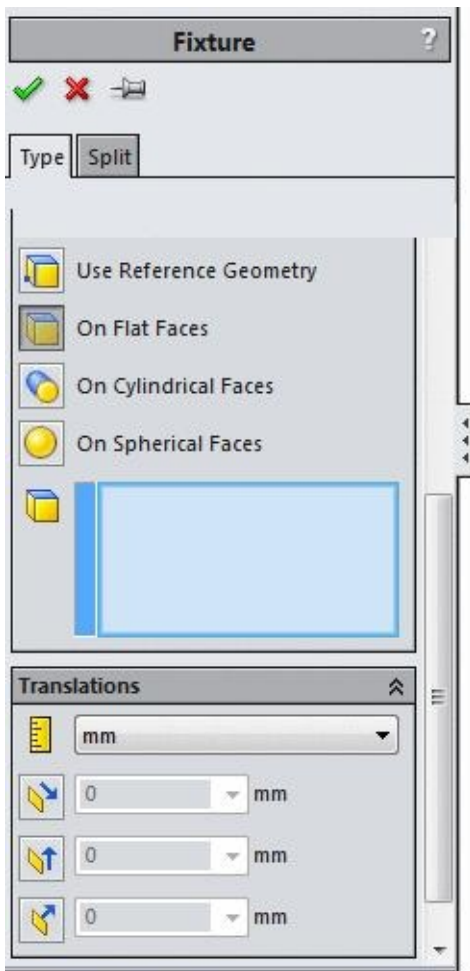

Figure-29. Fixture PropertyManager with On Flat Faces button
- Click on the **On Flat Faces** button from the **Fixture PropertyManager**. The **PropertyManager** will display as shown in Figure-29.